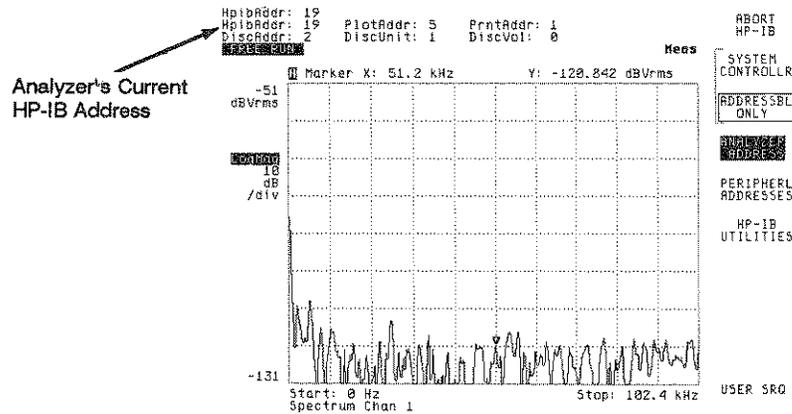

Figure 1-3. HP 35660A Screen After Pressing Local/HP-IB
4. Verify that the analyzer's address is set to 11. The current address setting is displayed in the HpiBAddr field (see Figure 1-3). You can change the analyzer's address by pressing the ANALYZER ADDRESS softkey, then using the numeric keypad and the ENTER softkey to enter a new value. However, the instructions in the verification procedure assume that the analyzer address is set to 11.